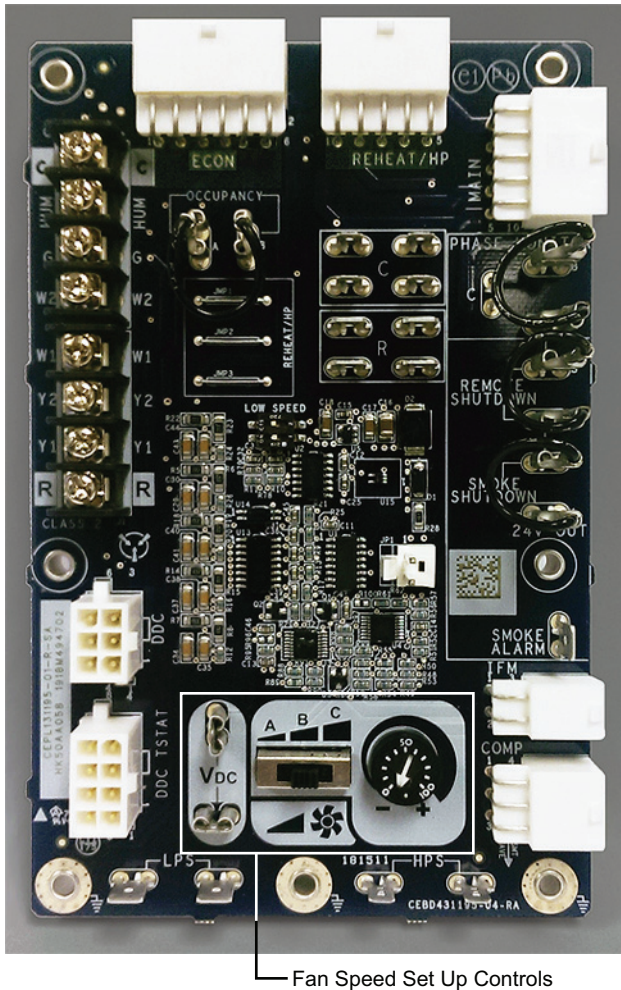
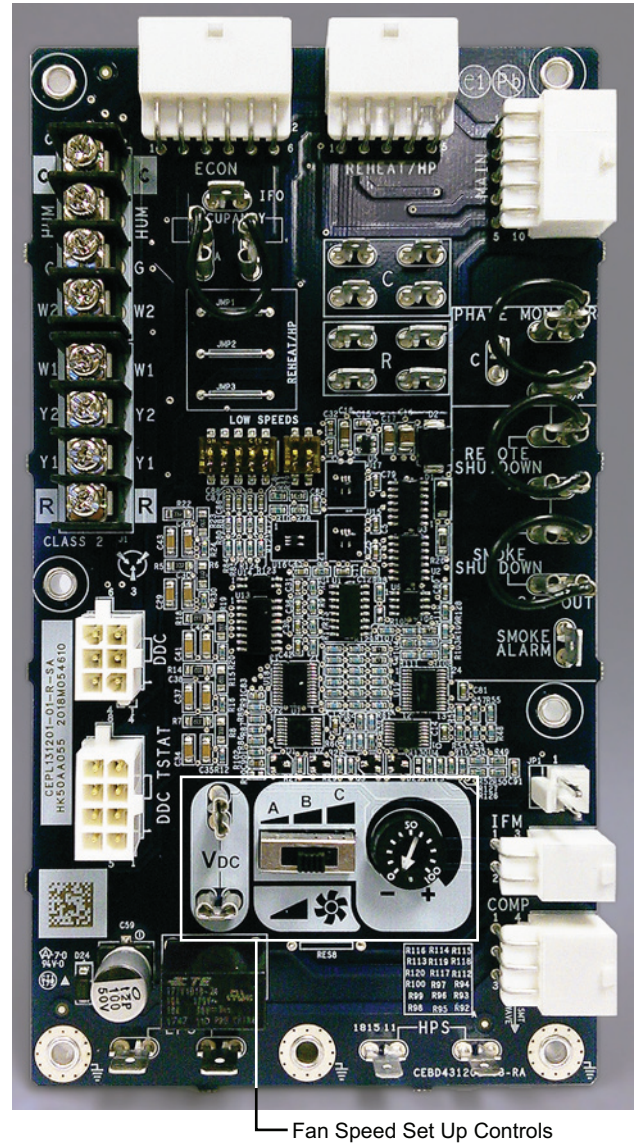

Fig. 7 — UCB Fan Speed Controls — 3-Phase Units
Fig. 8 — UCB Fan Speed Controls — Single Phase Units
The Fan Speed set up controls are located on the lower section of the Unit Control Board (UCB). See Fig. 7 for location on 3-phase voltage units or Fig. 8 for location on single phase voltage units.
The 2-pin DIP switch is common to both the single and 3-phase unit control boards (see Fig. 7 and 8). When replacing UCB, the board will be shipped as default without a low speed selected. To select correct FC low fan speed for 3 to 5 ton 48FC units set both DIP switches to “OFF” (0). For 6 ton 48FC units set both DIP switches “ON.” (1). See Table 1. The DIP switch positions can also be found on the unit’s control label diagram.